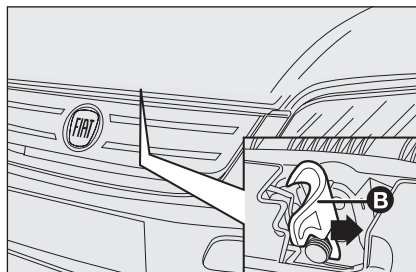

fig. 119
- move lever **B**-**fig. 119** in the direction of the arrow;